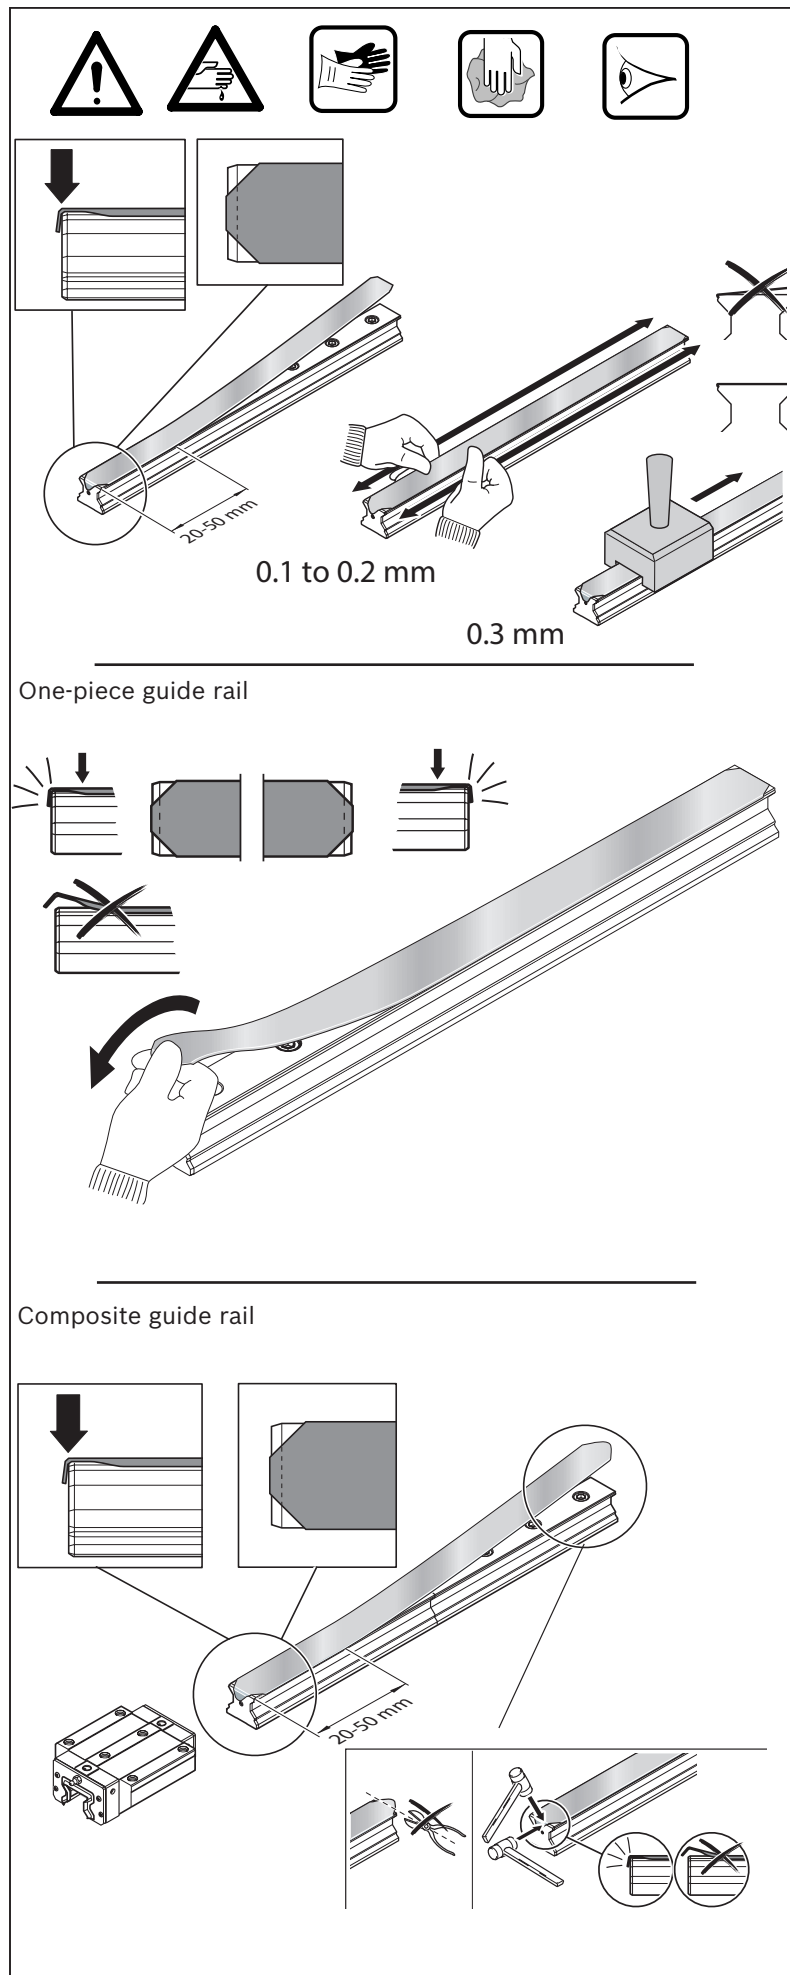

Fig. 35: Mounting Rail Seal
- ▶ If necessary, shorten the end of the seal just enough to expose the tapped hole on the rail end face ▮ Fig. 35